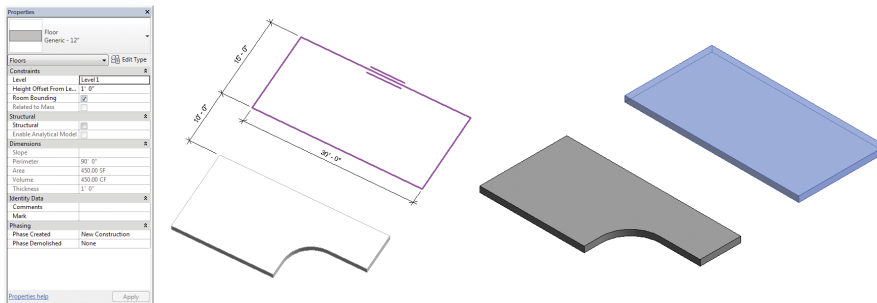

FIGURE 3.5 New floor 1'-0" (300 mm) above Level 1
4. Create another floor of the same type and same initial dimensions, 15' × 30' (4500 mm × 9000 mm), near the first floor (reference Figure 3.5 for the location). Leave some space between the two floors.
6. Finish the sketch to complete the floor (Figure 3.5).